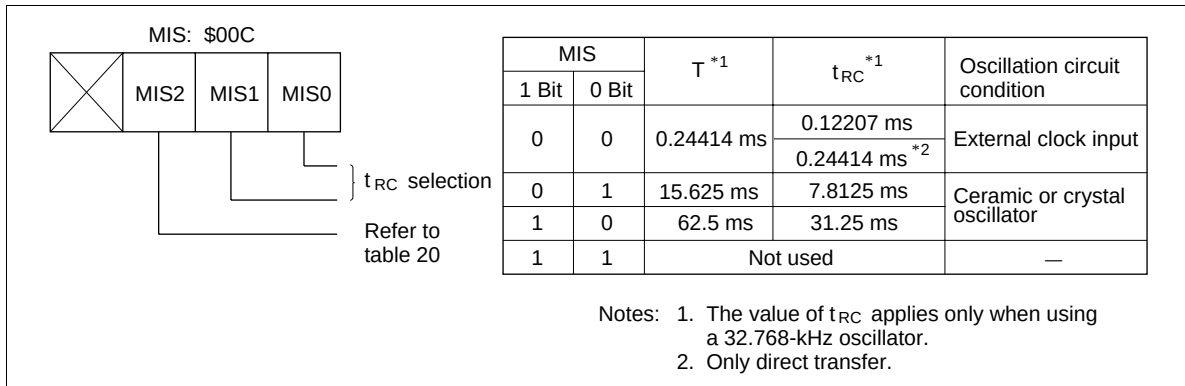

**Figure 13 Miscellaneous Register**
**Interrupt Frame:** In watch and subactive modes,  $\phi_{CLK}$  is supplied for timer A and the  $\overline{INT}_0$  circuit. Prescaler W and timer A operate as time bases to generate interrupt frame timing. Three interrupt frame cycles (T) can be selected by the settings of the miscellaneous register, as shown in figure 13.